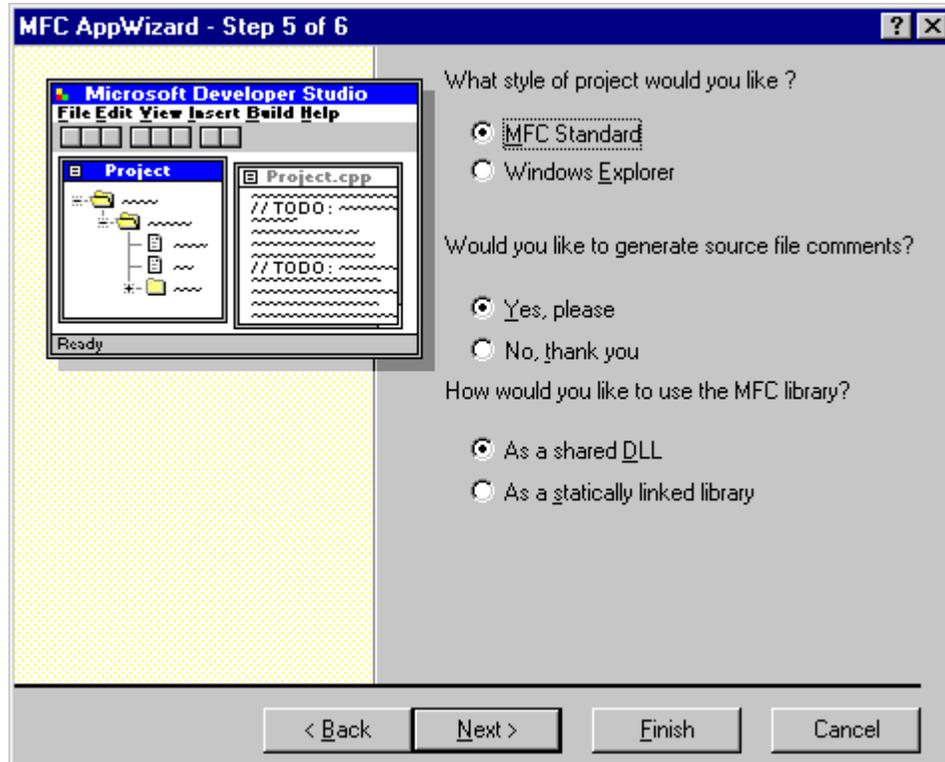

Figure 10 MFC AppWizard – Step 5
8. The next dialog you will see is the MFC AppWizard – Step 5 of 6 dialog. You do not need to make any changes to the options in this dialog. It should look like the one in Figure 10. Push **Next**.